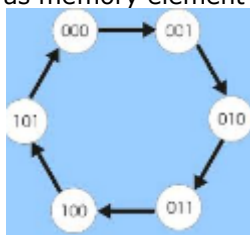

Figure 10.32: State sequence of mod 6 counter
- Let us design a modulo-6 counter (Figure: 10.32).